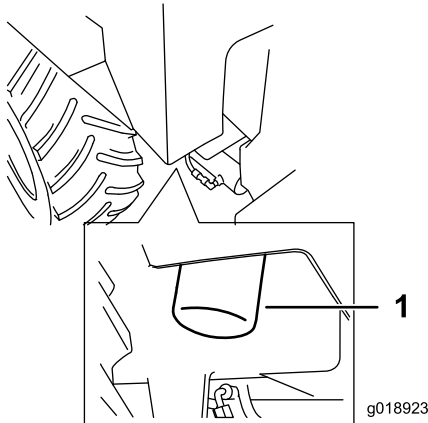

Figure 42
4. Turn the hydraulic-fluid filter counterclockwise, remove and discard the filter (Figure 42).